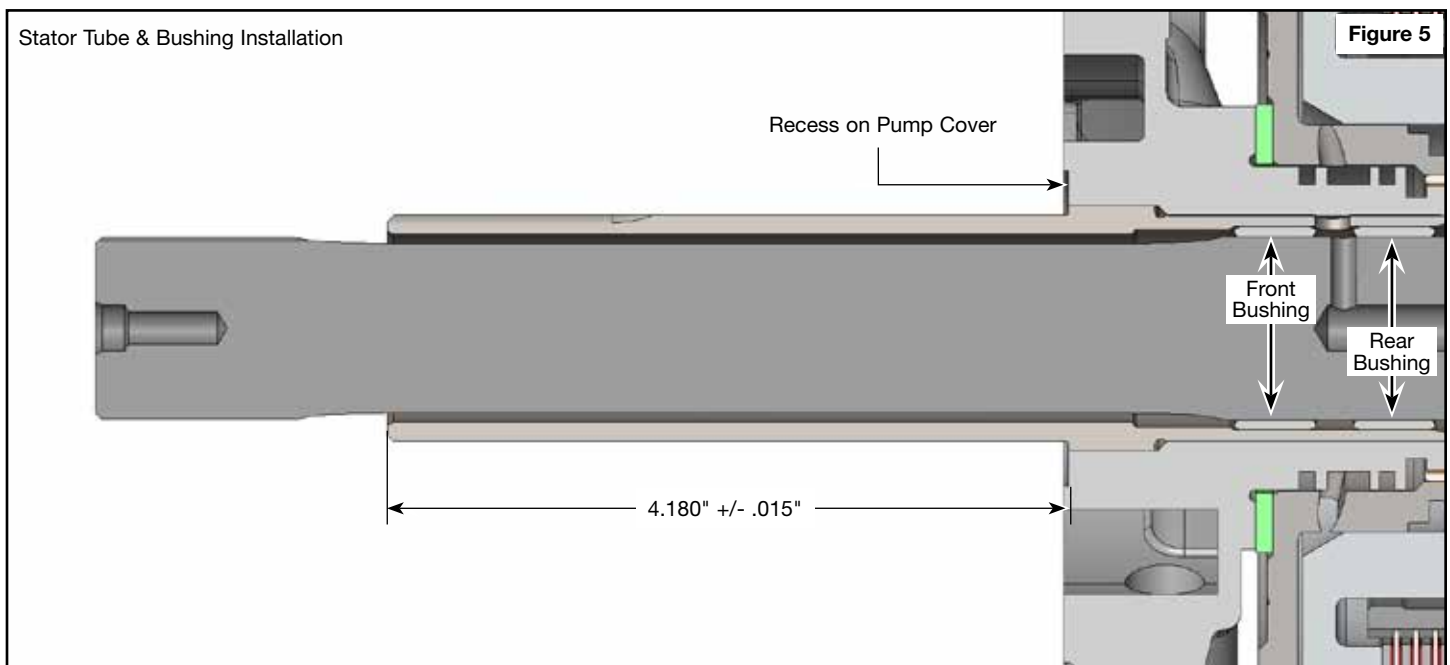

Figure 5
- Press stator tube into pump cover so that front edge of serrations are just flush with recess on pump cover (**Figure 2**). The installed distance from the front edge of the stator tube to the recess on pump cover should be  $4.180" \pm .015"$  (**Figure 5**).
- Install front bushing into stator tube until lightly seated against shoulder in stator tube bore (**Figure 5**).
- Install rear bushing to a depth of .025–.050" from rear of stator tube (**Figure 5**). Bushing will not be entirely past bore chamfer.